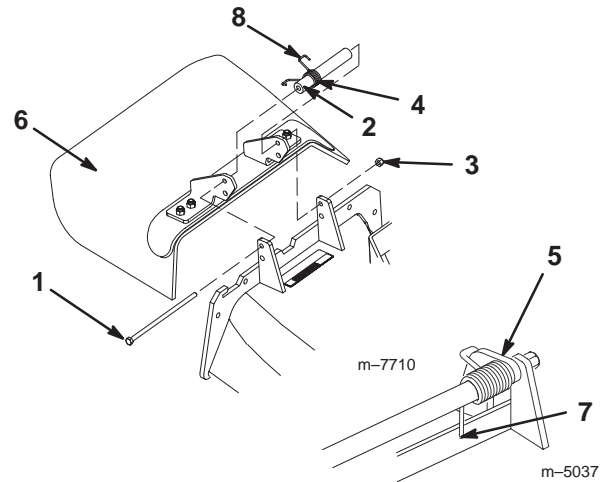

Figure 64
- Remove the locknut, bolt, spring, and spacer that hold the deflector to the pivot brackets (Fig. 64).
- Place the hook end of the spring around the grass deflector (Fig. 64).